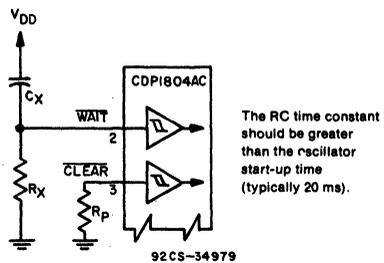

Fig. 9 - Reset/Run (ROM/RAM) diagram.
The first machine cycle after termination of reset is an initialization cycle which requires 9 clock pulses. During this cycle the CPU remains in S1, X, P-T, and then registers X, P, R(0) are reset, and MIE is set. Interrupt and DMA servicing suppressed during the initialization cycle. The next cycle is an S0 or an S2 but never an S1 or S3. The use of a 71 instruction followed by 00 at memory locations 0000 and 0001, may be used to reset MIE, so as to preclude interrupts until ready for them. Power-up reset/run (ROM/RAM) can be realized by connecting an RC network to WAIT (See Fig. 9).